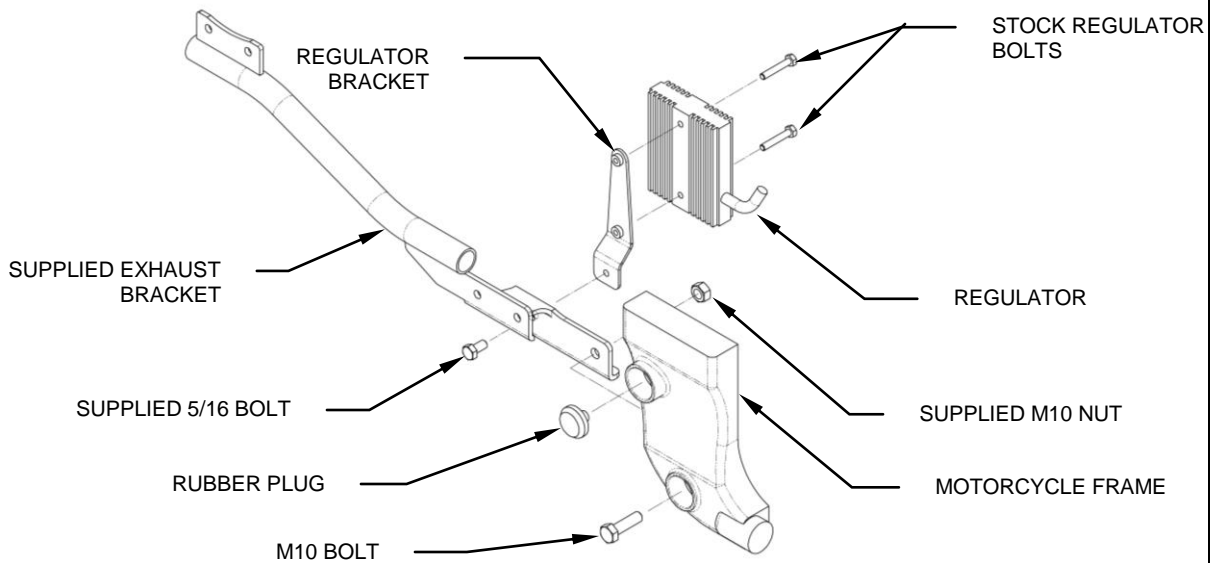

FIGURE 1
4. Mount the regulator to the supplied regulator bracket as shown in figure 1.
5. Mount exhaust bracket supplied to the lower inside exhaust mount on the frame and start supplied M10x40mm bolt through outside of frame and start the supplied M10 lock nut onto the bolt (see figure 1). **DO NOT TIGHTEN at this time.**
6. Attach the regulator bracket assembly from step 4 to inside of exhaust bracket with one 5/16 supplied bolt and tighten. (See figure 1)
10. Make sure the mufflers are parallel to each other and tighten the M10 bar mount bolt and then the 5/16 bolts on the back of each muffler. Tighten the clamps on the front of each muffler. Place the supplied plastic plug into exposed bolt hole on the frame (see figure 1).